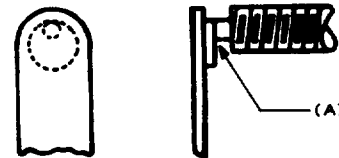

Fig. 2 - Alignment of Point and Disc Contacts
- 2.06 Contact Alignment: Fig. 2 (A) - Contacts shall line up so that the point of contact falls wholly within the circumference of the opposing contact disc.